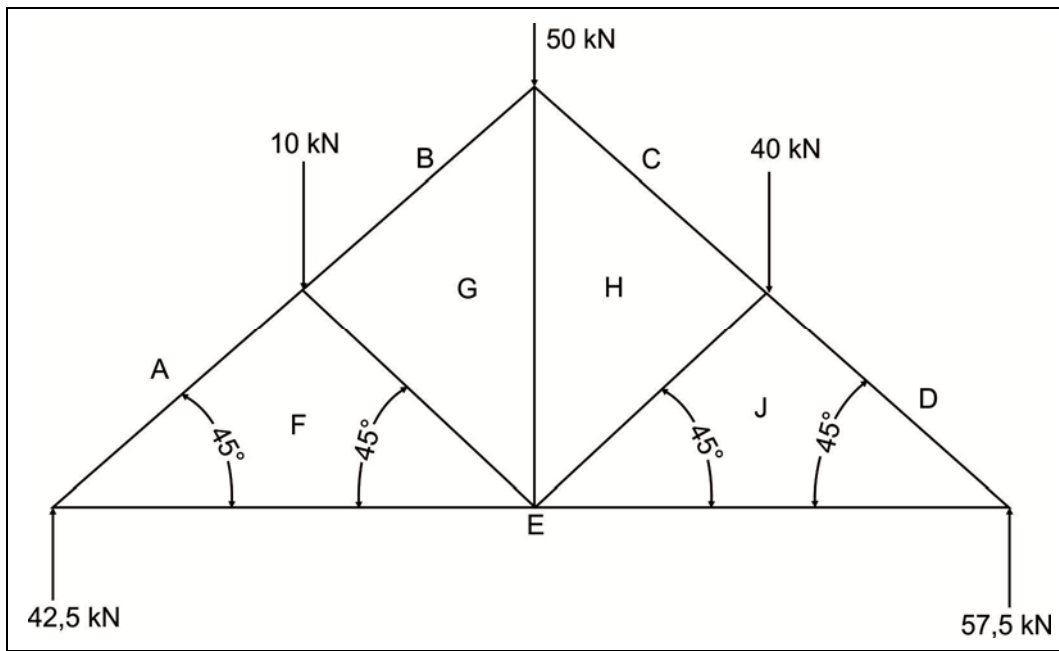

Figure 5.3
5.3 FIGURE 5.3 below shows a framework of a truss.